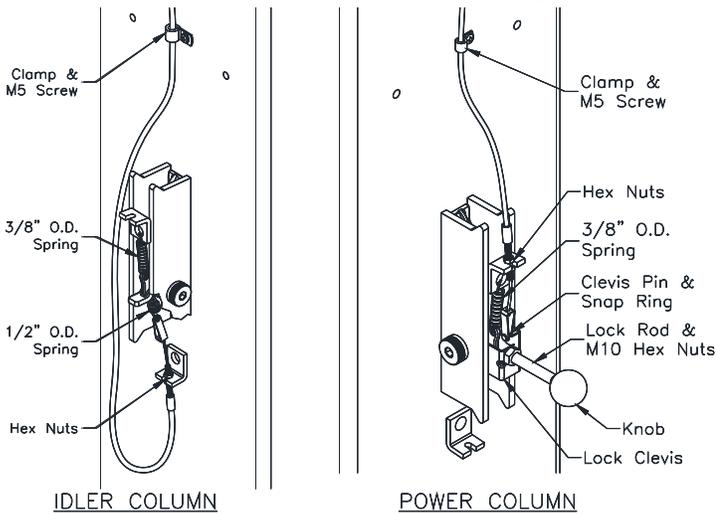

Fig. 9 – Lock Assembly
31) Attach Mechanical Lock Release Cable Assembly to each lock pawl. See **Fig 9**.